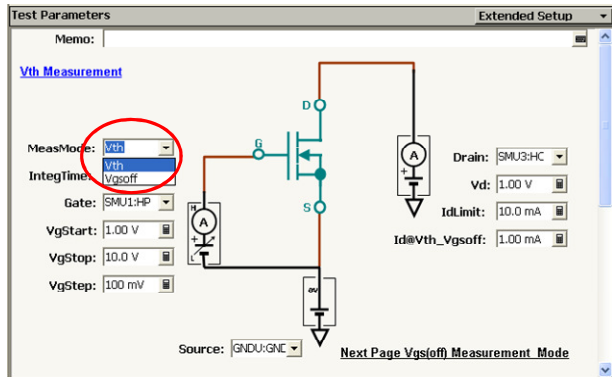

Figure 3-11. “ $V_{th}$   $V_{gs(off)}$ ” Application Test GUI.
**Application Test name:**  $V_{th}$ ,  $V_{gs(off)}$  Figure 3-11
This Application Test supports two measurement modes by “ $V_{th}$ ” and “ $V_{gsoff}$ ” in the MeasMode parameter as shown in figure 3-11.